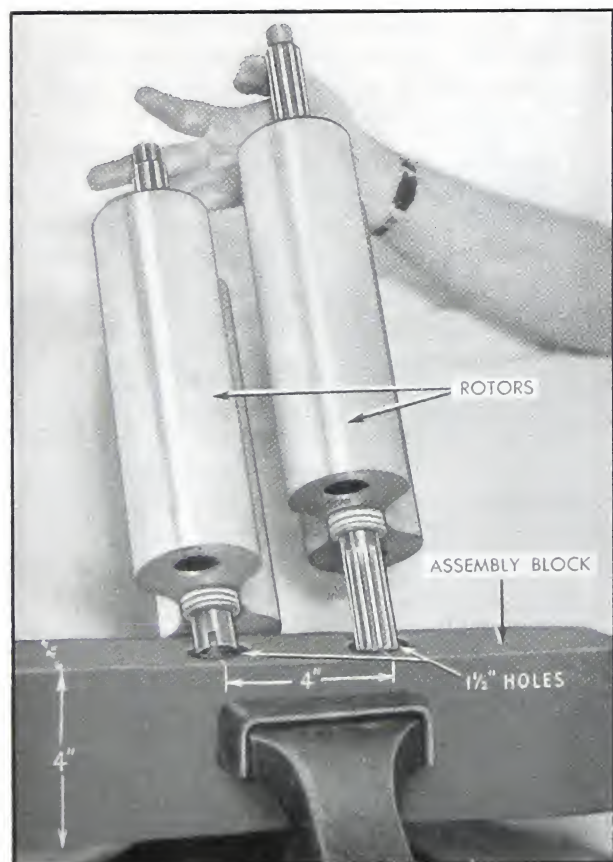

Fig. 10-6. Assembly block
3. Use a block of wood to hold the rotors for preliminary assembly and for checking end clearance. See Fig. 10-6. Assemble rotors in wood